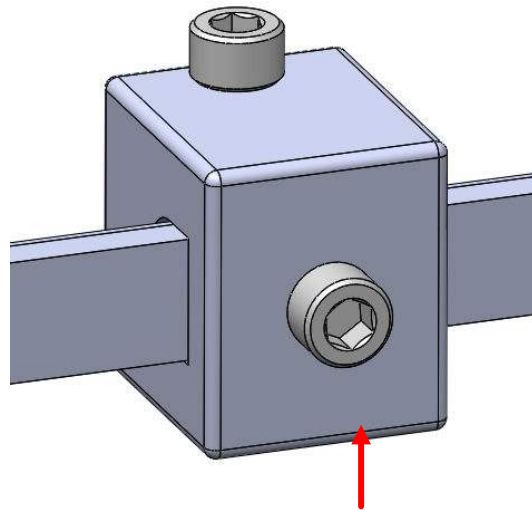

Figure 3-13. Set Screw
- c. You can fix the SENS093_Slider position by tightening the set screw shown in Figure 3-13.